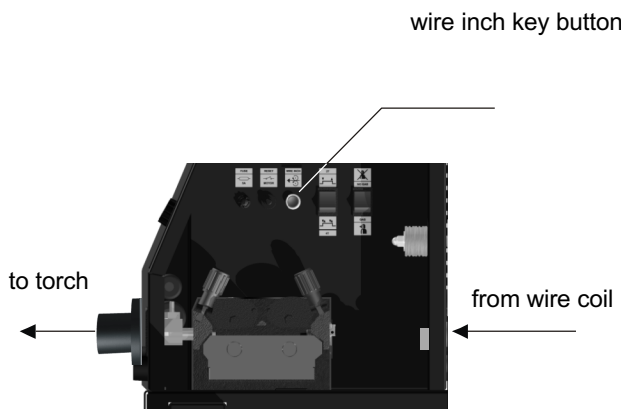

Fig.12
5.10 – Push wire inch key button (Fig. 12) on the internal panel of wire feeder; the feeding motor rotates. Release key button to stop motor when the wire become situated 50 cm out of the torch tip (stick-out - Fig. 14).